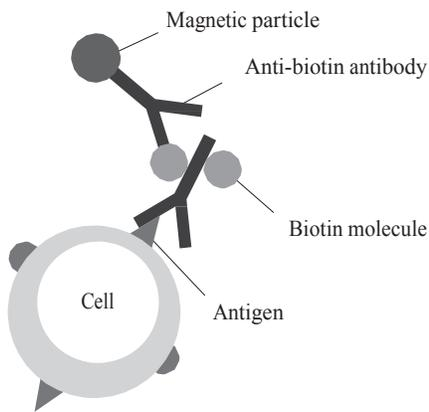

Fig 3.8: Flexible Labeling System.
- Indirectly in a two-step labeling procedure called Flexible Labeling System. In a first step cells are labeled with antigen-specific antibodies conjugated to biotin. In a second step these antibodies are labeled with biotin-specific antibodies conjugated to super-paramagnetic iron-dextran beads (see Fig. 3.8).